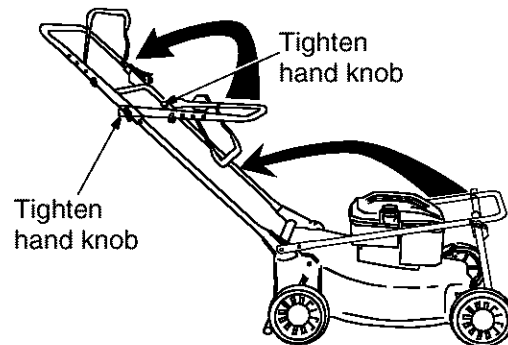

Figure 2
- Tighten the hand knobs on each side of the handle (carriage bolts must be seated properly into the handle). See Figure 2.